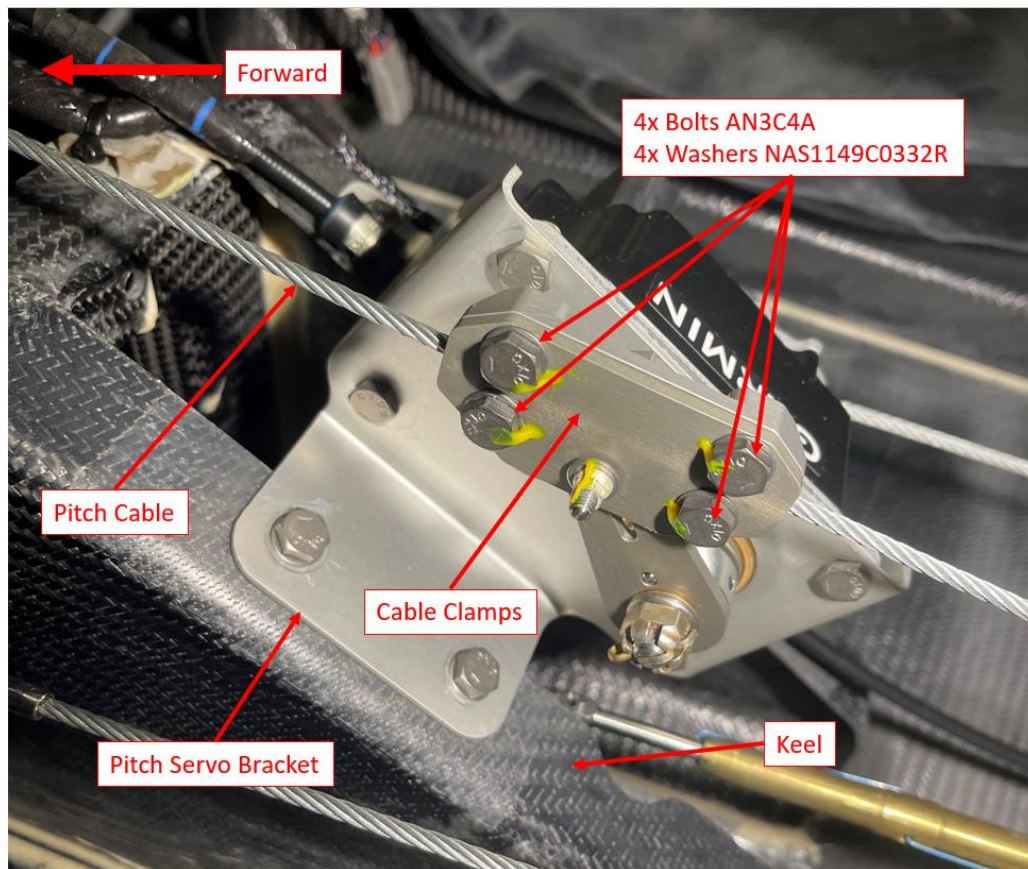

Figure 1 Pitch Servo/Pitch Bracket Assembly
2. Remove the 4x AN3C4A bolts and 4x NAS1149C0332R washers from cable clamps (see Figure 1).
3. Remove the cable clamps and carefully separate them from the pitch cable (see Figure 1).
6. Remove the pitch servo/pitch servo bracket sub assembly from the keel (see Figure 1).